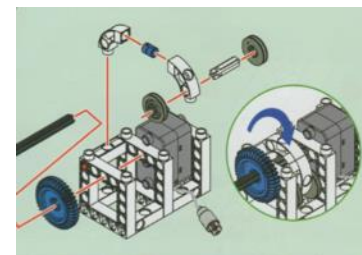

Figure 5: Gear Assembly
**Use Figure 5 for steps 11-14.**